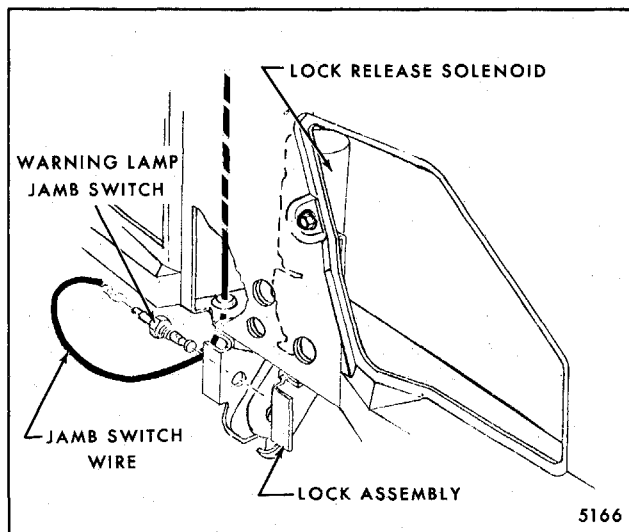

Fig. 7-106-Tailgate Warning Lamp Jamb Switch
2. Disconnect wire harness terminal from warning light jamb switch on lock assembly (Fig. 7-106).
A grounding type jamb switch is mounted to the tailgate lock assembly. Its function is to complete an electrical circuit for the instrument panel warning light when the tailgate lock is in any position other than fully locked (primary lock position) provided the ignition is ON (Fig. 7-106).